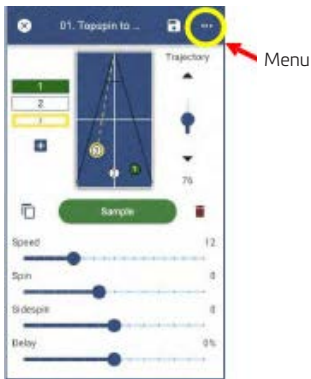

Figure 3-56
2. Touch the [...] menu in the upper right corner of the Drill Edit screen. (Figure 3-56)